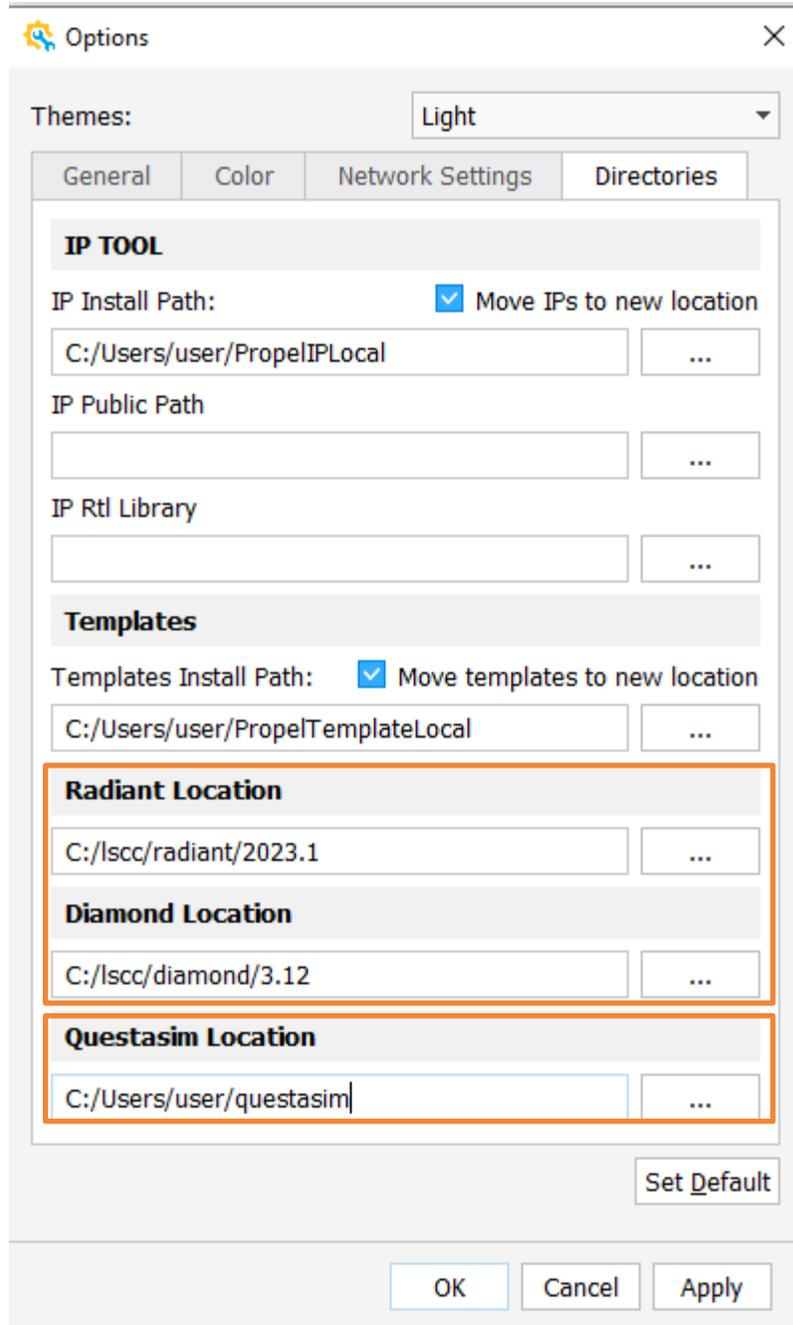

Figure 2.101. Builder Options Wizard – Radiant/Diamond Location and Questasim Location
3. Or, before launching simulation, you can change Simulator to Questasim by clicking **Design > Options** from the Builder Menu bar. The Builder Options Wizard opens (Figure 2.101). Click **Directories** to set a desired Questasim Location.